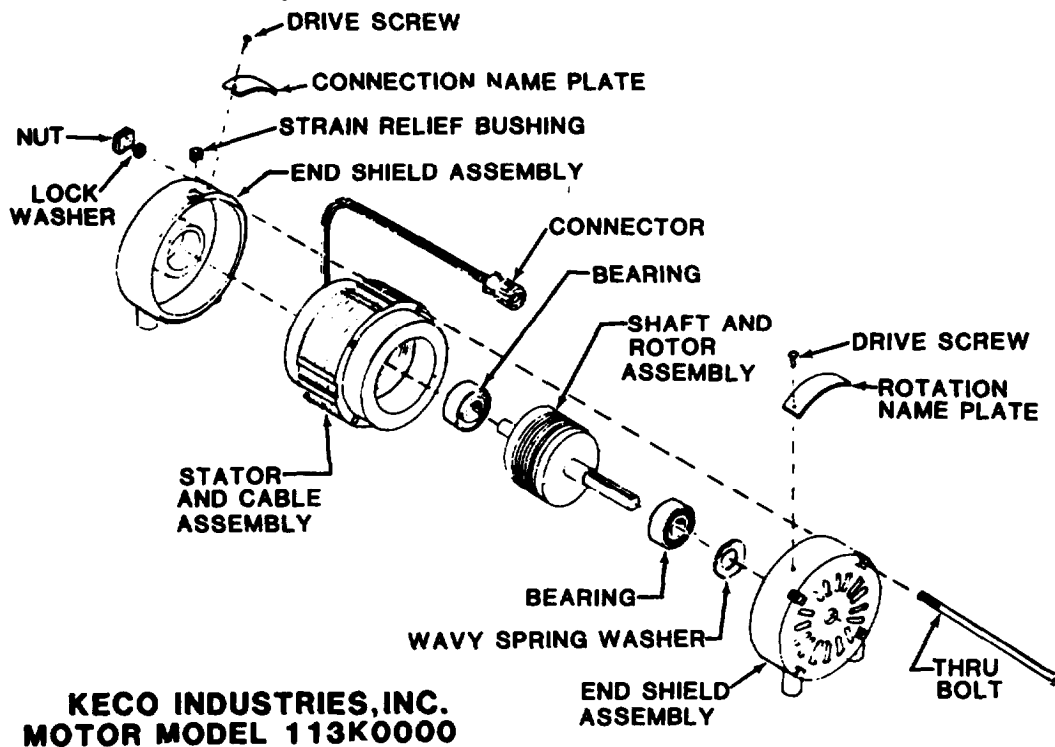

Figure 5-3.1 Motor Assembly, Keco Industries, Inc., Model 113K000
c. Motor Assembly, Keco Industries, Inc., Model 113k000. (See fig. 5-3.1)
(1) To replace connector: